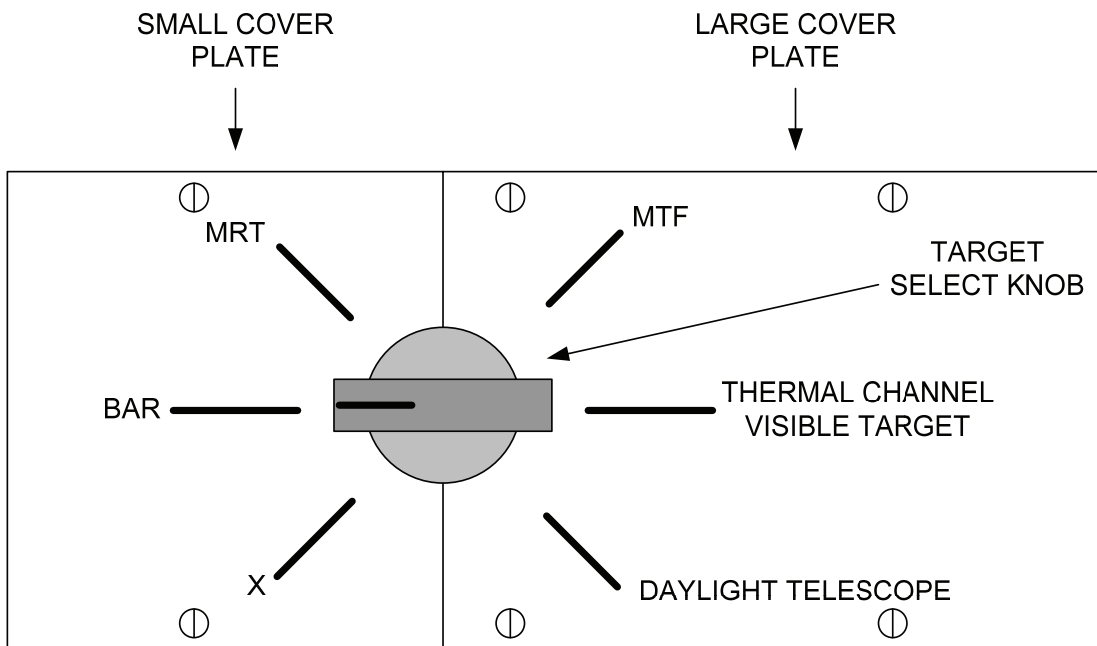
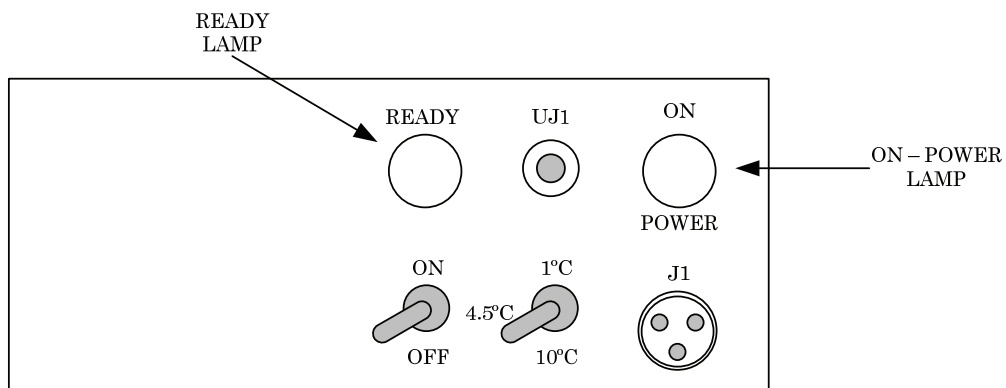

Figure 2. TI top view.
Figure 4. TI side view.
- b. Remove cables from transit case and rotate target select knob to **BAR** position (fig. 2).
- c. Remove four screws from large cover plate and remove large cover plate (fig. 2).
- e. Loosely replace large cover plate (fig. 2).
- f. Perform steps (1) through (6) below:
- (1) Ensure TI **ON/OFF** switch is in **OFF** position.
- (2) Position TI **1°C/4.5°C/10°C** switch to **4.5°C**.
- (3) Connect ac power cable supplied to J1 (fig. 4).
- (3) Verify **READY** lamp blinks approximately once a second; if not, perform **8 b (1)** below.
- (4) Set **TI ON/OFF** switch to **OFF**.
- (5) Remove large cover plate (fig. 2).
- (7) Loosely replace large cover plate (fig. 2).
(6) Remove large cover plate (fig. 2) from TI.
(8) Loosely replace large cover plate (fig. 2).
You may need to remove small cover plate (fig. 2).
(c) Connect multimeter to UJ1 (fig. 4).